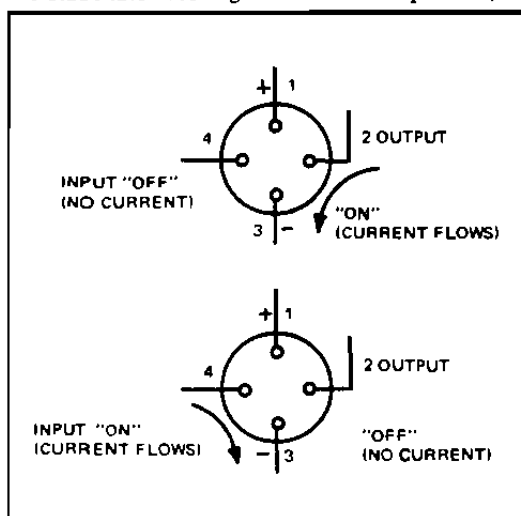

FIG. 1-5 SHUTTER IC OPERATION
In the holding leg of the circuit, current flows from the positive side of the 3-volt battery, through the interlock, to pin 1 of the integrated circuit (IC). (Refer to Figure 1-5.) This causes the output of the IC (pin 2) to turn on. With the output on, current flows through the magnet coil and pins 2 and 3 to the negative side of the battery. With the electromagnet energized in this manner, the second shutter blade will remain open until the circuit is broken.
In the holding leg of the circuit, current flows from the positive side of the 3-volt battery, through the interlock, to pin 1 of the integrated circuit (IC). (Refer to Figure 1-5). This causes the output of the IC (pin 2) to turn on. With the output on, current flows through the magnet coil and pins 2 and 3 to the negative side of the bat-